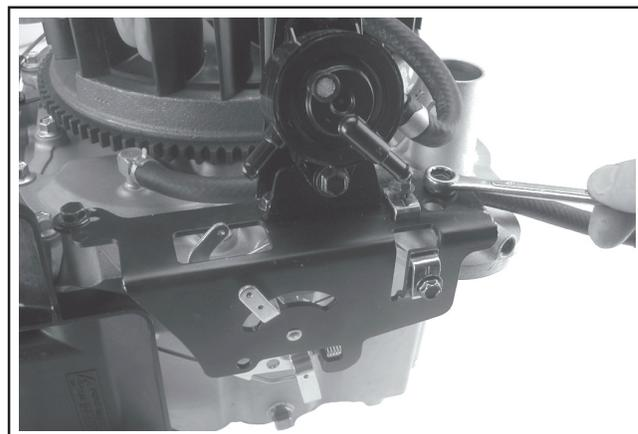

Figure 10-66. Attaching Speed Control Bracket.
2. Attach the speed control bracket to the mounting locations on the engine with the M6 screws. Position the bracket as marked during disassembly. Torque the screws to **11.0 N·m (95 in. lb.)** into new, as-cast holes or **7.5 N·m (65 in. lb.)** into used holes. See Figure 10-66.